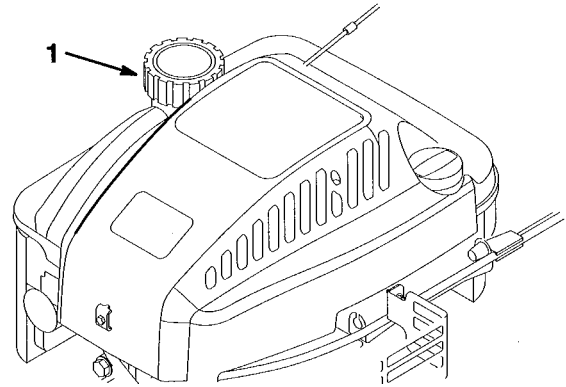

Figure 4
2. Clean around fuel tank cap and remove cap from tank (Fig. 4).